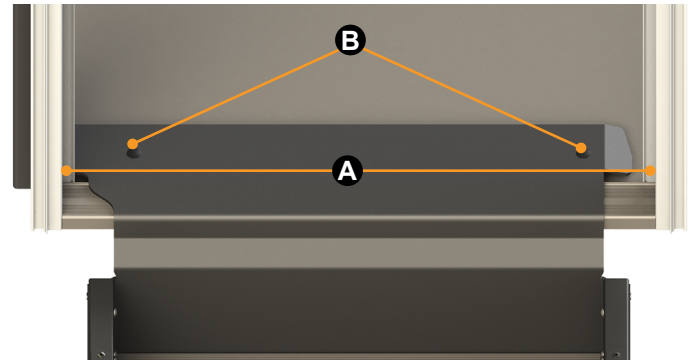

Fig.2
1. With the step extended and in the down position, place the SolidStep assembly inside the doorframe (Fig.2).